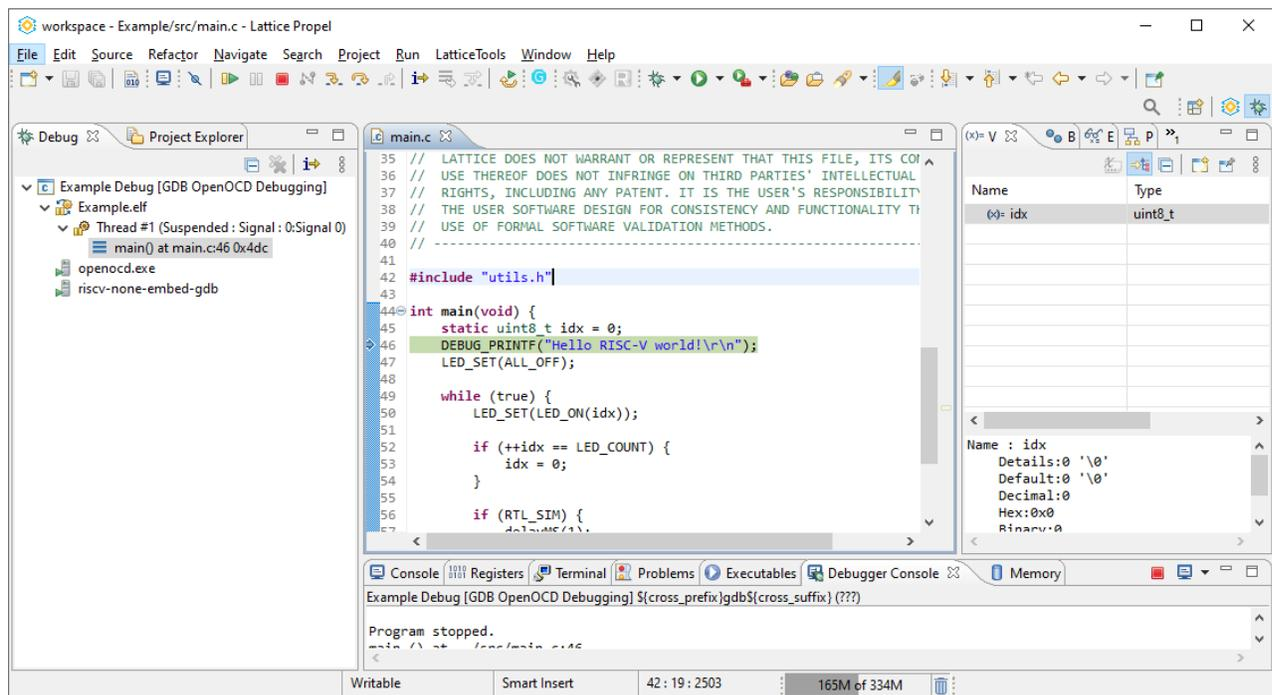

Figure 3.36. Debug Perspective
6. The Propel Window displays, as shown in Figure 3.36. The execution stops right at the beginning of the *main()* function.